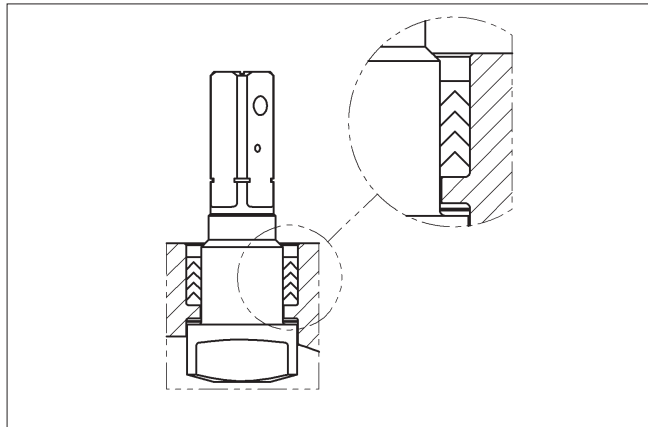
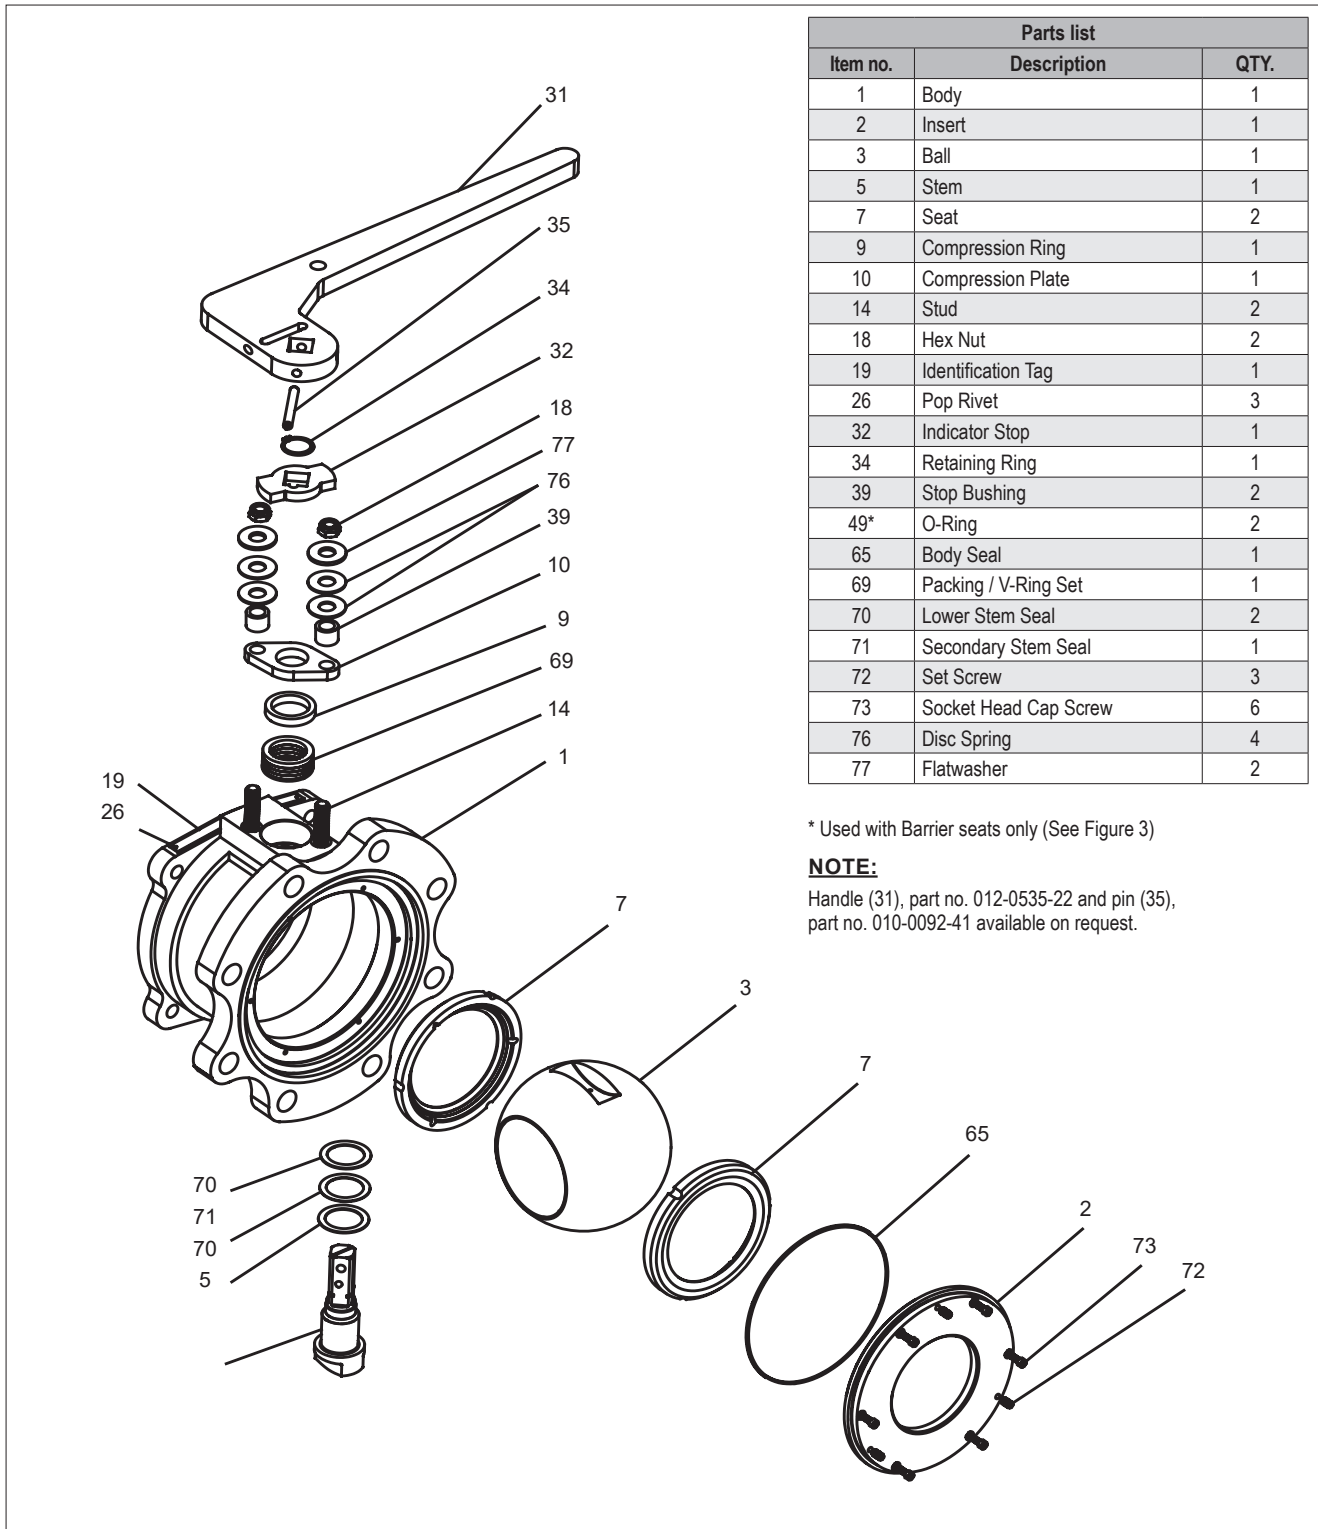

Figure 4. Proper V-ring Orientation
Figure 8.
6. From inside the body (1), insert the one lower stem seal (70), the secondary stem seal (71), and the second lower stem seal (70) into the stem bore (see **Figure 8**).
7. Insert the stem (5) through the body cap end of the body (1), being careful not to scratch the stem sealing surface; and press it gently up into the stem bore until resistance is felt from the thrust bearing.
8. Hold the stem in place from the bottom and insert the packing (69) (see **Figure 4** for proper v-ring orientation), over the stem (5).
- c. From **Figure 8**, the ballooned part number, part name and quantity required.